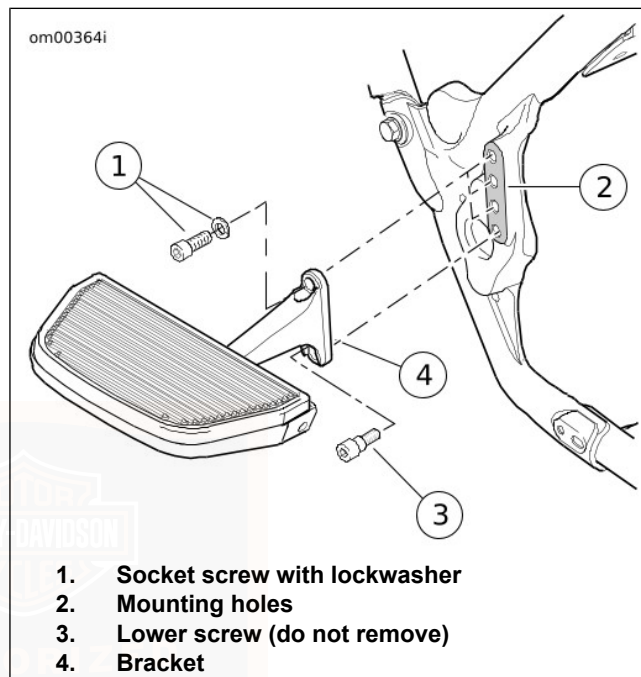

Figure 23. Passenger Footboard
1. See Figure 23. Remove socket screw with lockwasher (1) from top of footboard bracket (3).